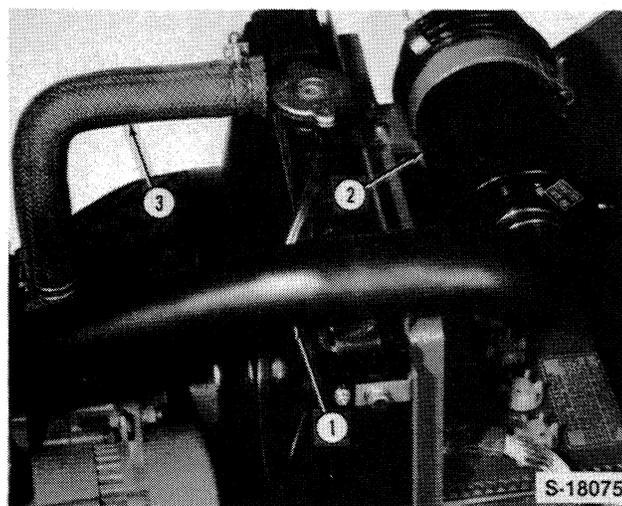

Figure 3
Models 1510 and 1710 only: Remove the air cleaner hose from the air cleaner to valve cover air inlet connection, Figure 3.
3. Remove the upper radiator hose from the cylinder head, Figure 3.